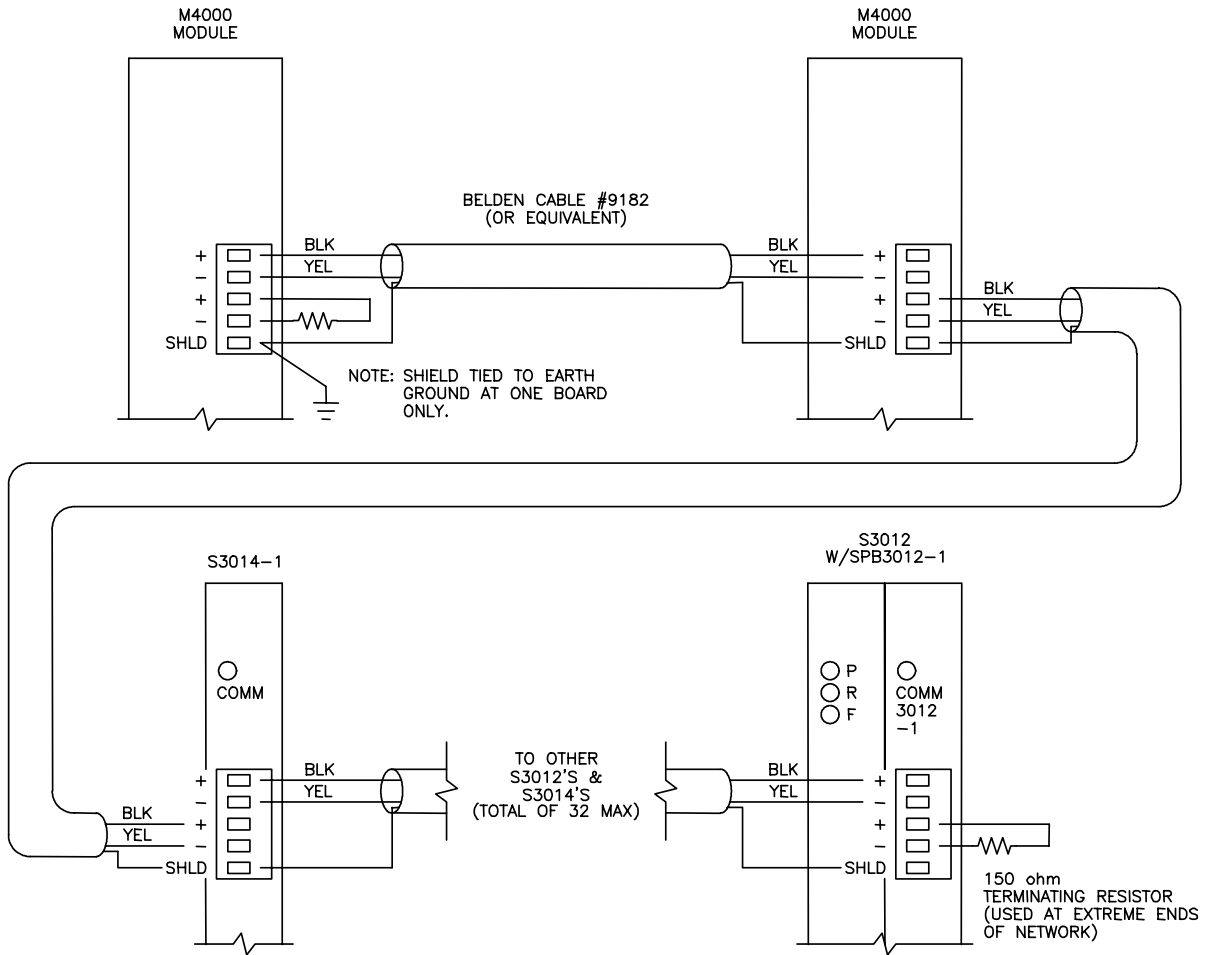

Figure 12.5 – Typical Network Wiring
Refer to figure 12.5 for a typical schematic of the network and for the pin outs of the network interface connectors. When wiring the network, the following rules must be followed:
- 5) The two extreme ends of the network should be terminated with 150 ohm resistors as shown in figure 12.5.